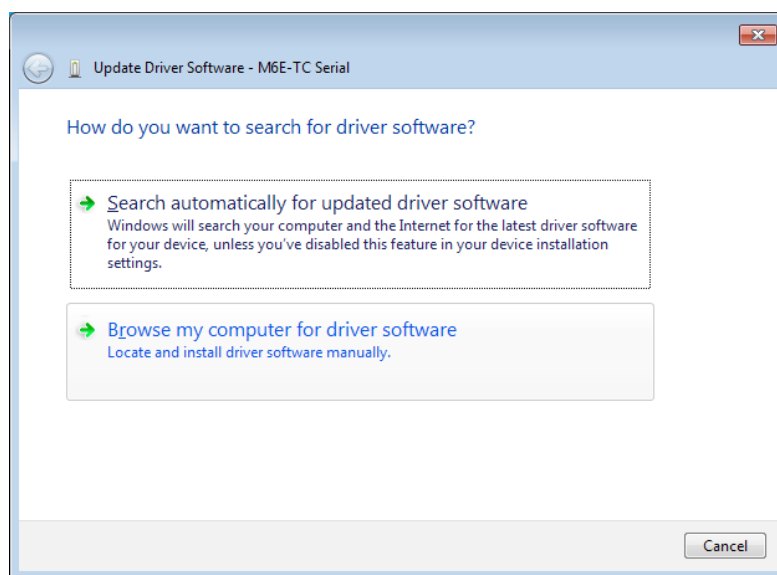

Figure 2 Prompt to Install Device Driver
1. When you power on the AP4600 Programmer, a prompt should appear on the host computer screen (Figure 2). Click **BROWSE** and follow the on-screen instructions to install the new USTP hardware device driver.